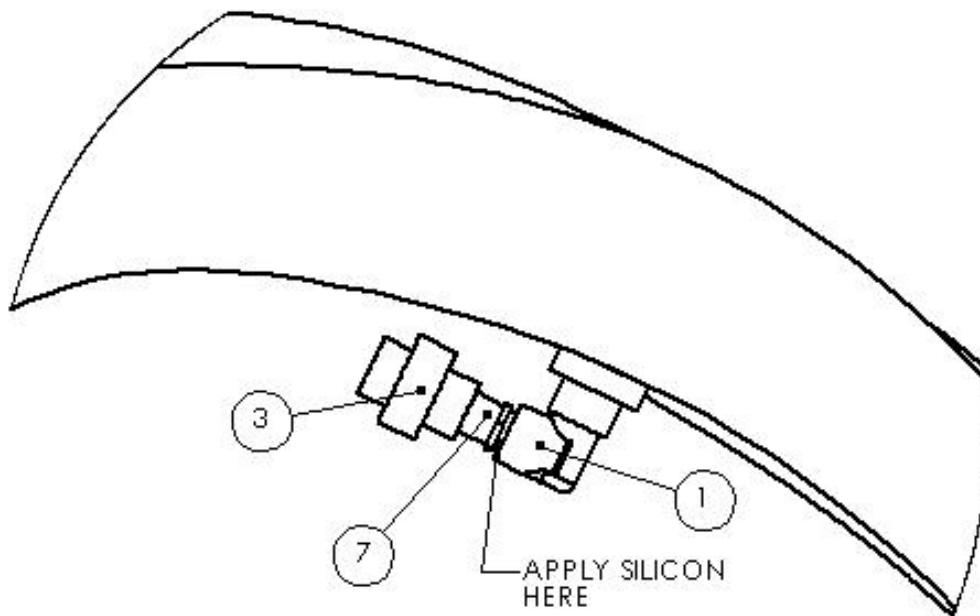

Figure 11
- 14)** Apply a small amount of silicon sealant to the male thread side of the (#3) PVC Union. Thread the PVC Union into the elbow from step 12 and hand tighten until snug. See Figure 11.